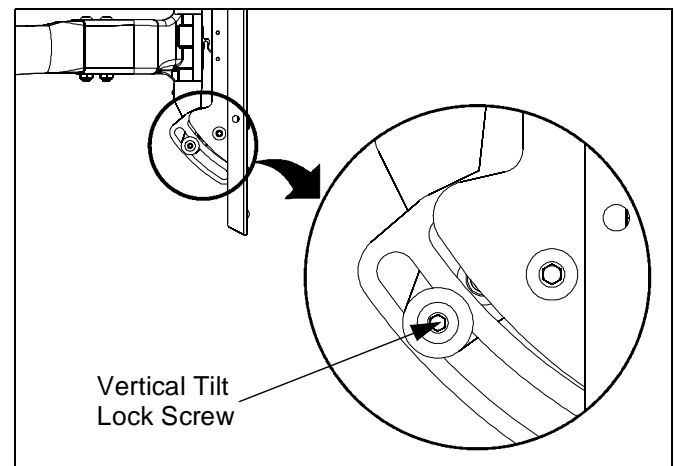

Figure 11
3. To lock the mount at the desired vertical tilt, tighten the vertical tilt lock screw. (See figure 11)